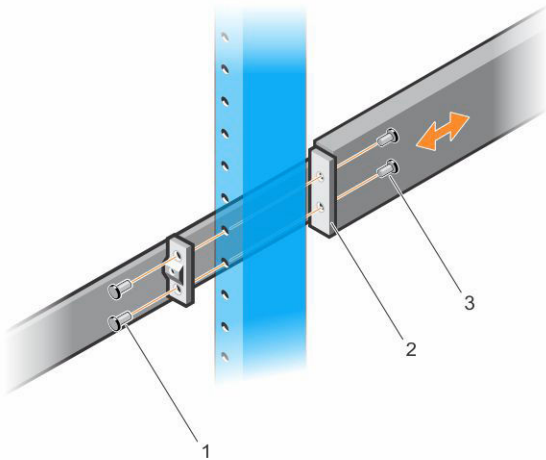

Figure 19. 2-Post Center-Mount Configuration
- 1 Slide the plunger bracket rearward until it clicks into place and secure the bracket to the front post flange with two user-supplied screws. See item 1 in Figure 19.
- 2 Slide the back bracket towards the post and secure it to the post flange with two user-supplied screws. See items 2 and 3.